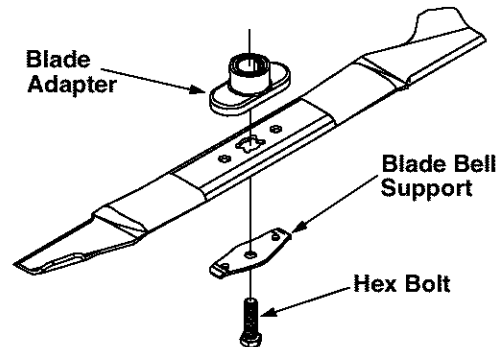

Figure 11
- Remove the bolt and the blade bell support which hold the blade and the blade adapter to the engine crankshaft. See Figure 11.